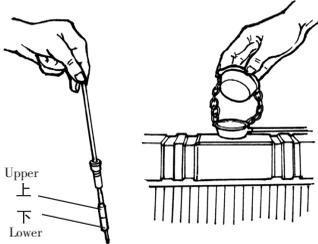

Fig2-6 Check coolant and lubricant level
3.1.1 Check coolant level and add enough cooling water (see Fig 2-6)